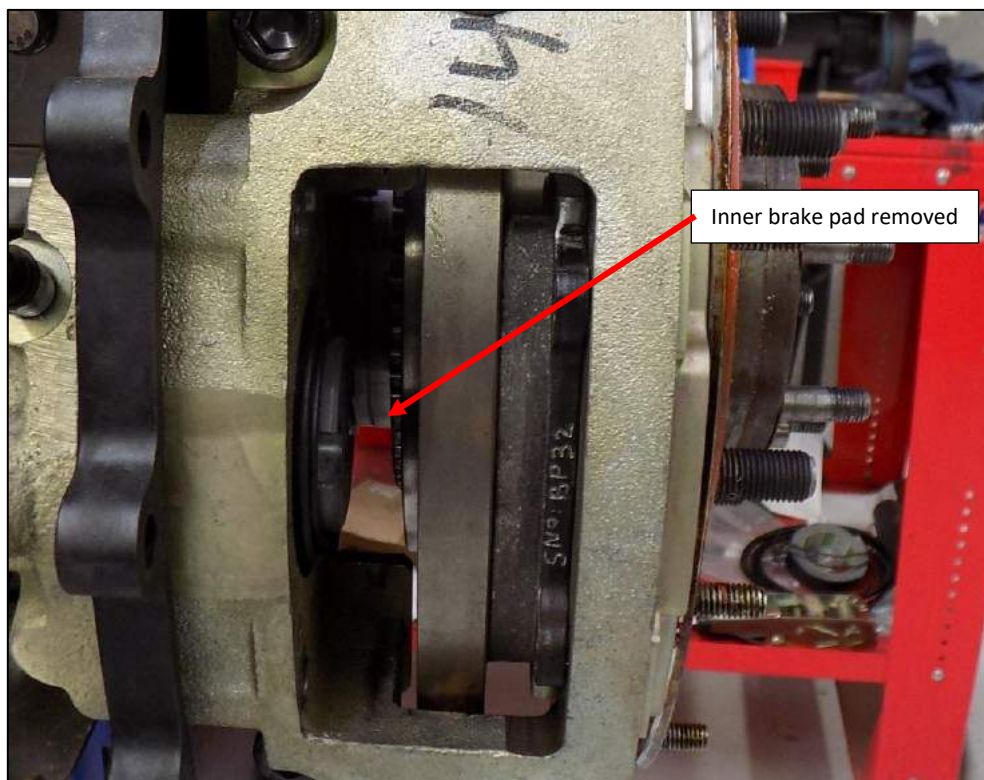

Figure 62
4. Remove the inner brake pad (Figure 62).